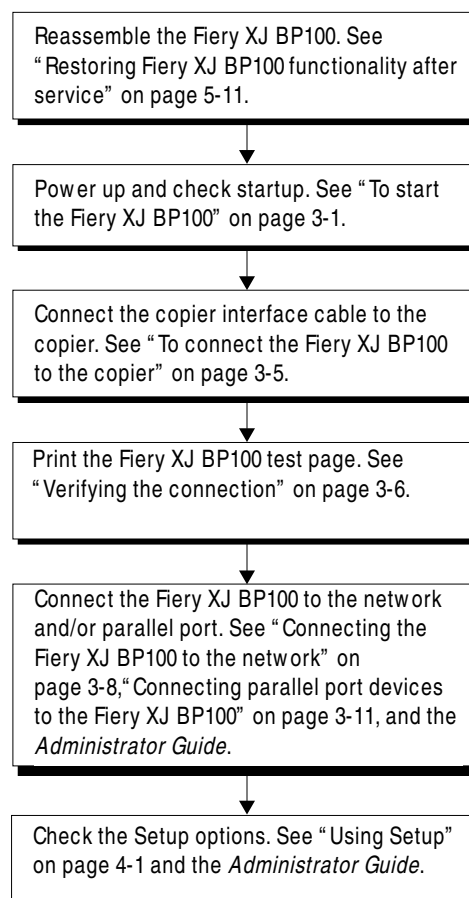

Figure 5-8 Fiery XJ BP100 connection verification steps
**5. Before you leave the customer site, verify Fiery XJ BP100 operation as outlined in Figure 5-8.**